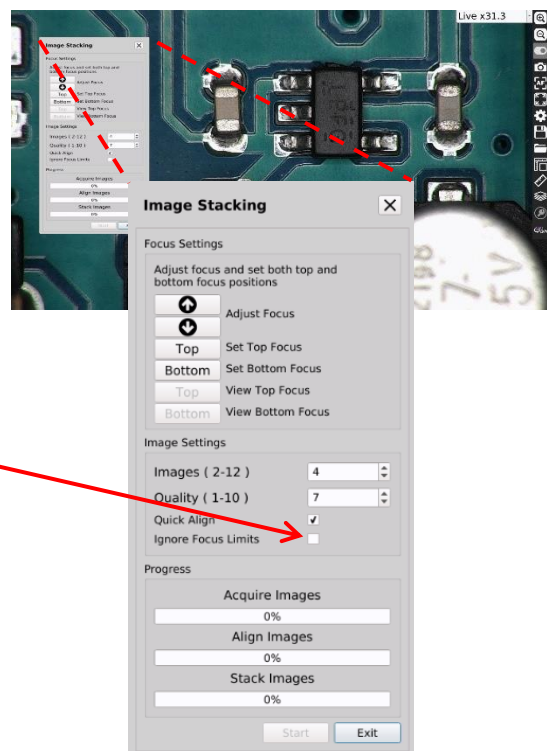

Fig. 18
1. Click on the Image Stacking icon. This will display the Extended Focus window (Fig.18).(after a reboot some icons will be greyed out as the focus points have to be set)